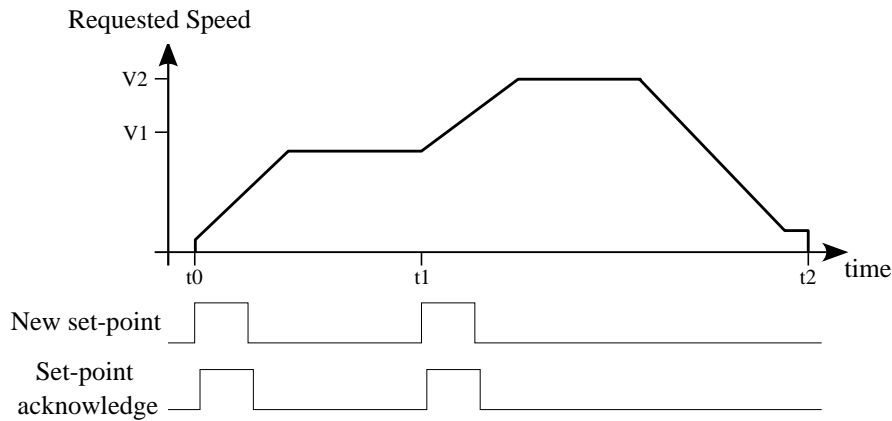
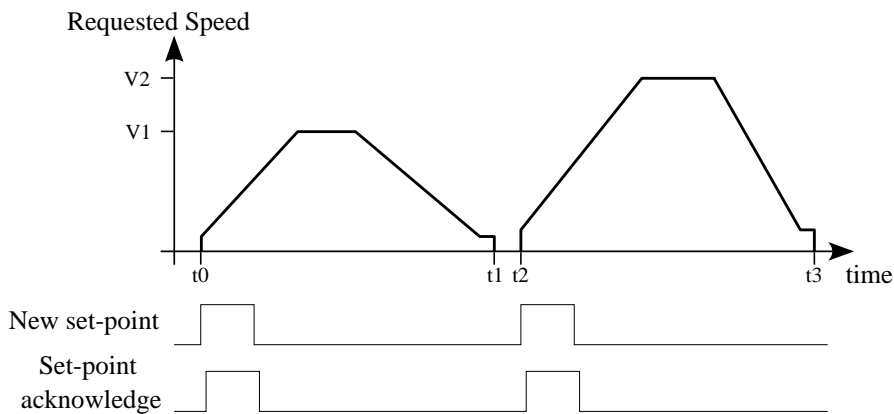

Figure 21.2. Timing chart *Profile Position Mode* in Single set point mode.
Figure 21.3. Timing chart *Profile Position Mode* in Set of set points mode.
- bit *Change set immediately*: through this bit it is possible to choose the mode of positioning between *Single set-point* (if the bit is set to 0) and *Set of set-point* (if the bit is set to 1). In the *Set of set-point* mode (see Figure 21.3) you can find only a buffer of data, the one for the data used during the positioning. In the *Single set-point* mode (see Figure 21.2) the positioning acts as described in the bit *Change immediately option* in the parameter *PositioningOptionCode*. The bit must be set with the transition of the bit *New set-point*;